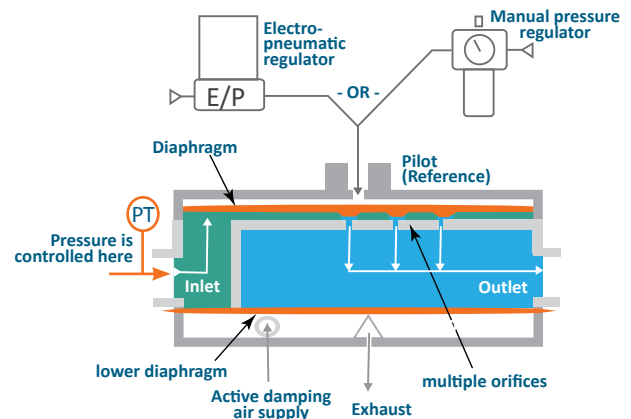

Fig. 2 Equilibar® FDO back pressure regulator with active damping
In applications where pulsation damping is important, we offer this FDO sanitary BPR model with active damping. The FDO Active Damping (AD) system is in the bottom cap and uses a continuous flow of pressurized gas supply to maintain a pressurized *lower* diaphragm for optimized damping. Supply gas pressure feeding the active damper should be slightly greater than the downstream pressure. (Fig. 2). This unique technology will create an equilibrium with the downstream system pressure, even as the system pressure changes over time. For instance, if the downstream pressure of the process increases by 20 psi over the course of the "run", the Active Damping system will self-adjust to provide continuous optimal damping without user interaction. This configuration requires a modified bottom cap and reduces downstream pulsation an average of 50%. **Note:** At steady state conditions, the AD solution typically consumes 200 ml/min of air.